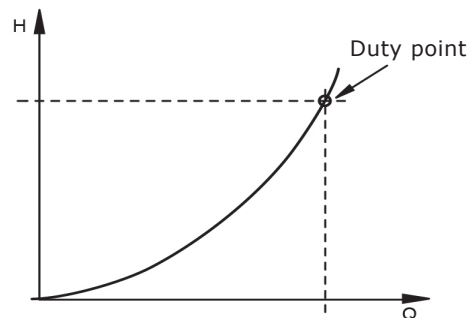

Fig. 1 System characteristic
Put the required maximum flow (Q) on the X axis, maximum pressure losses (H) — on the Y axis. See Fig. 1.